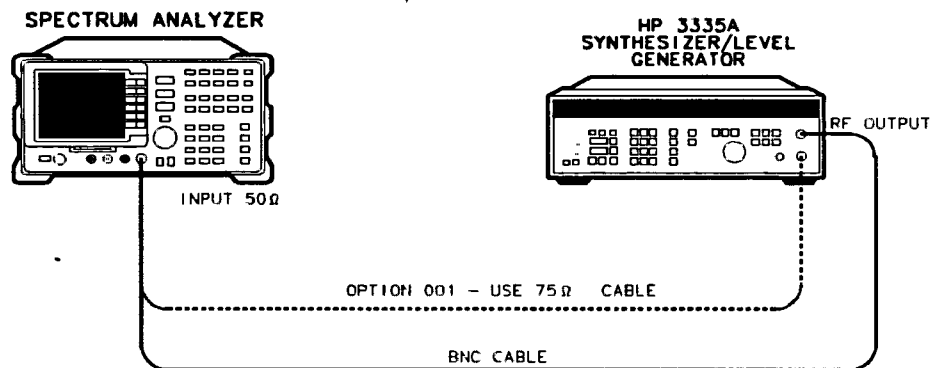

Figure 3-13. Scale Fidelity Test Setup
2. Connect the equipment as shown in Figure 3-13.